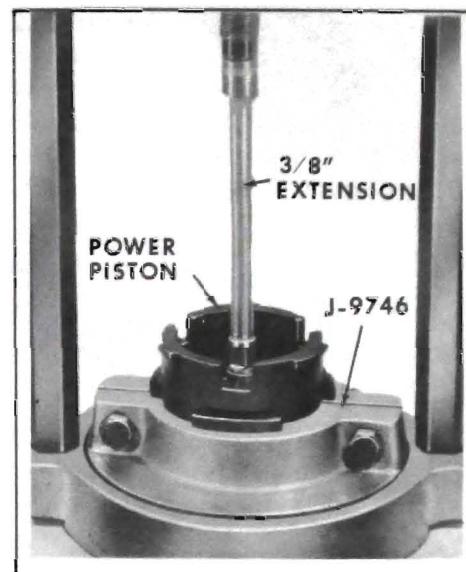

Figure 9-28—Removing Air Valve Assembly
10. Set up J-6180-01 Power Ram and J-6207 Hydraulic Pump with J-8609 Press Plate. Insert power piston, tube down, in press plate, and remove air valve assembly using a 3/8" drive extension as a remover. See Figure 9-28.